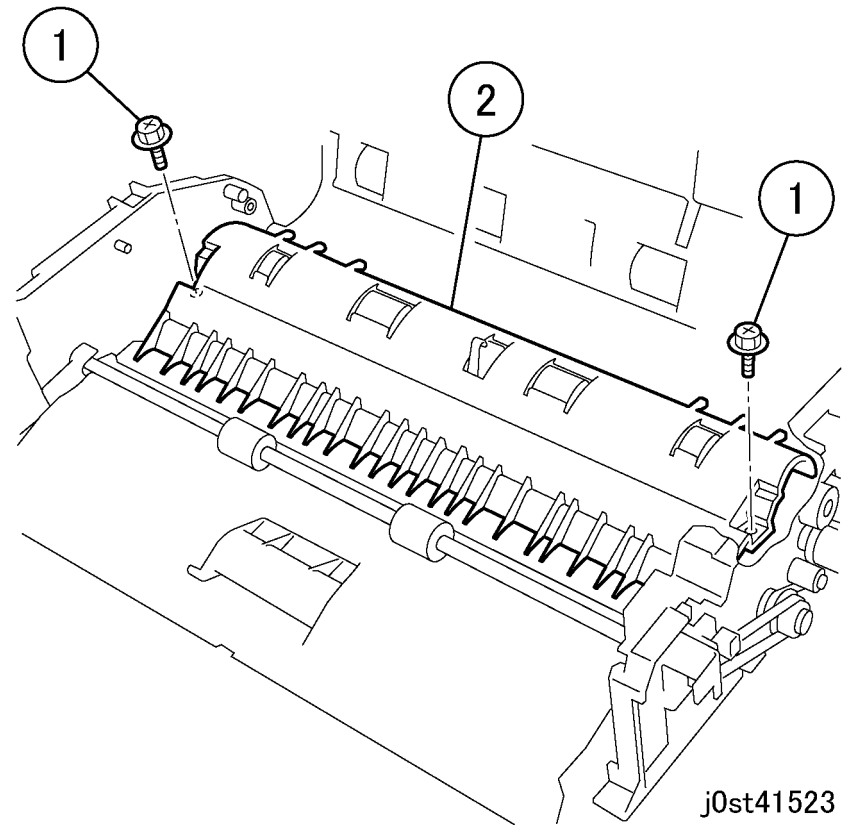

Figure 3 Removing the Feed Guide
9. Remove the Feed Guide. (Figure 3)